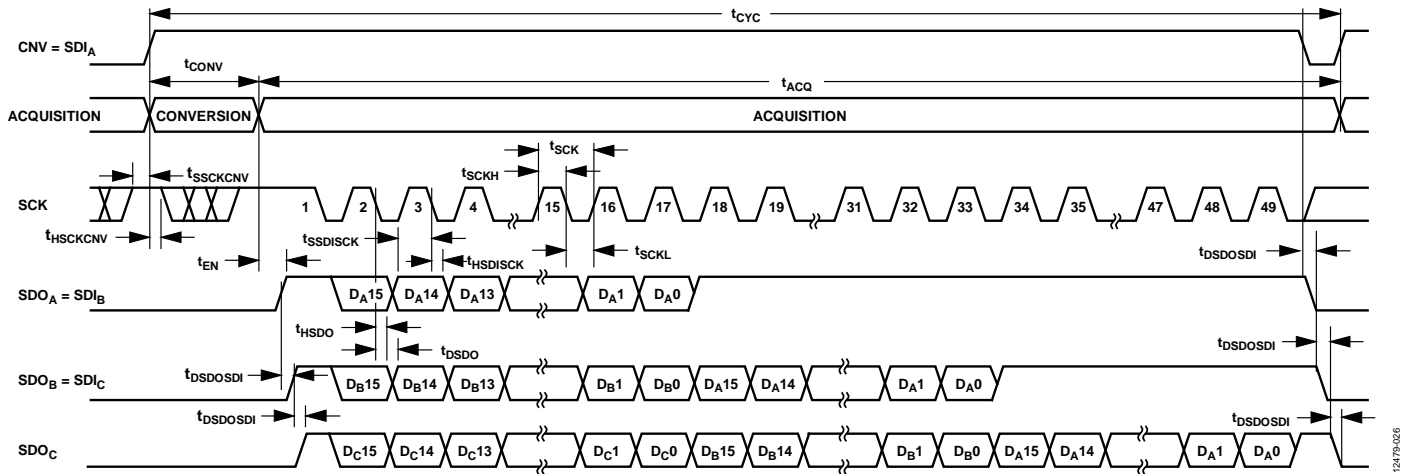
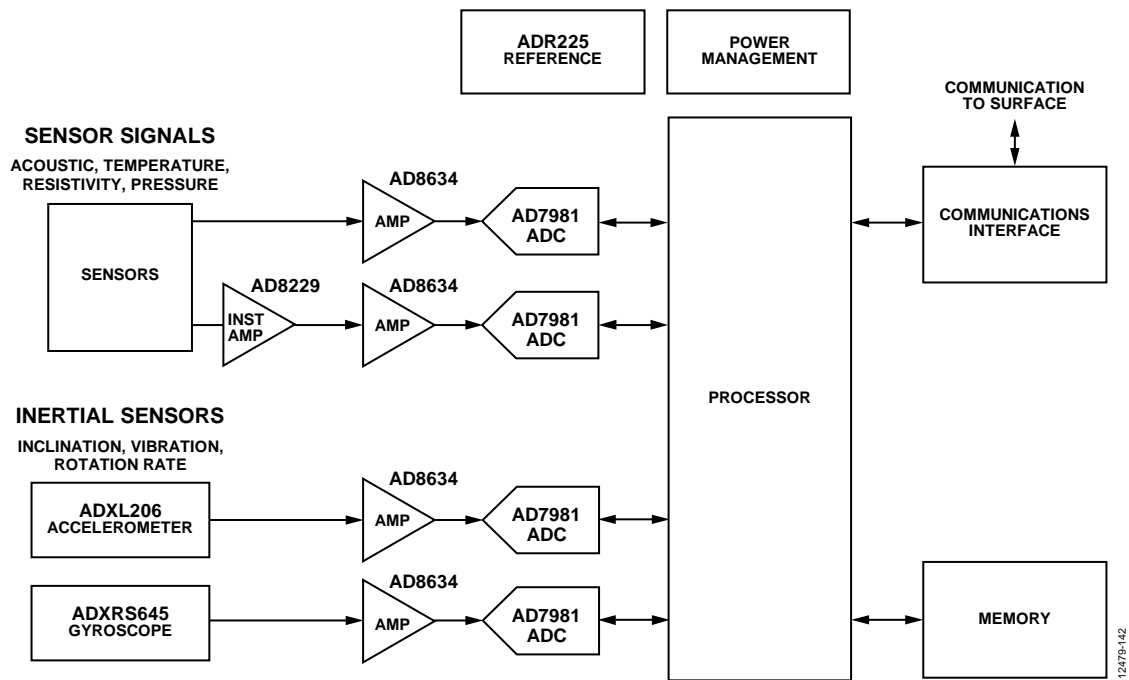

Figure 52. Chain Mode with Busy Indicator Serial Interface Timing
Figure 53. Simplified Data Acquisition System Signal Chain
- In chain mode if SCK is high during the CNV rising edge (see Figure 53).
A connection diagram example using three AD7981 devices is shown in Figure 52, and the corresponding timing is given in Figure 53.
data readback. When all ADCs in the chain have completed their conversions, the SDO pin of the ADC closest to the digital host (see the AD7981 ADC labeled C in Figure 52) is driven high. This transition on SDO can be used as a busy indicator to trigger the data readback controlled by the digital host. The AD7981 then enters the acquisition phase and powers down. The data bits stored in the internal shift register are clocked out, MSB first, by subsequent SCK falling edges. For each ADC, SDI feeds the input of the internal shift register and is clocked by the SCK falling edge. Each ADC in the chain outputs its data MSB first, and  $16 \times N + 1$  clocks are required to read back the N ADCs. Although the rising edge captures the data, a digital host using the SCK falling edge allows a faster reading rate and, consequently, more AD7981 devices in the chain, provided the digital host has an acceptable hold time.